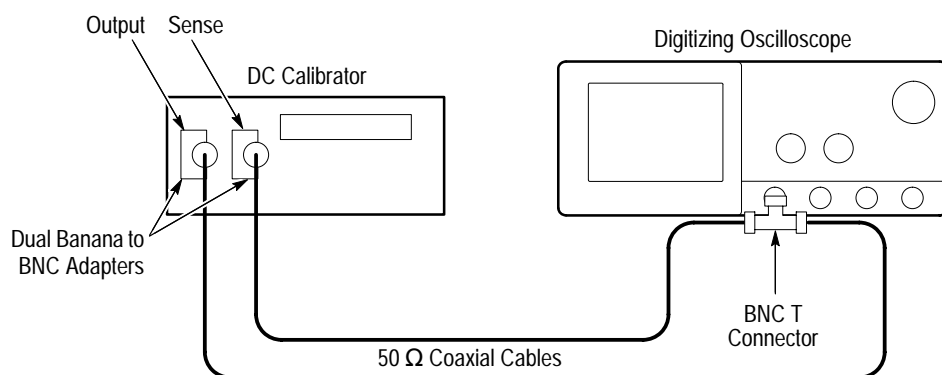

Figure 1–5: Initial Test Hookup
- Connect the output of a DC calibration generator through a dual-banana connector followed by a 50  $\Omega$  precision coaxial cable to one side of a BNC T connector. See Figure 1–5.
- Connect the Sense output of the generator through a second dual-banana connector followed by a 50  $\Omega$  precision coaxial cable to the other side of the BNC T connector. Now connect the BNC T connector to **CH 1**. See Figure 1–5.